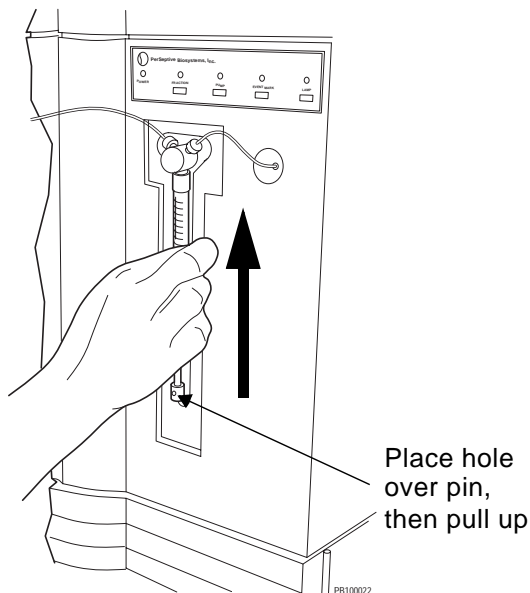

Figure 9-18 Replacing the Autoloader Syringe
1. Place the hole in the base of the plunger over the pin on the syringe piston (Figure 9-18).